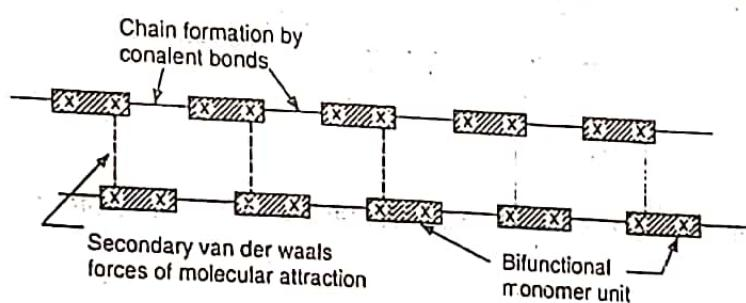

Fig. 1. Linear chain polymer from a bifunctional monomer.
(1) Depending upon the functionality of monomeric units, it is possible to obtain different types of structures. In case of a bifunctional monomer, two reactive groups attach side by side to each other forming a linear or straight-chain molecule. Linear molecules consist of monomer units linked by primary covalent bonds, but the different chains are held together by secondary van der Waals forces of molecular attraction. This gives the possibility of chain movement in one direction (see Fig 1).